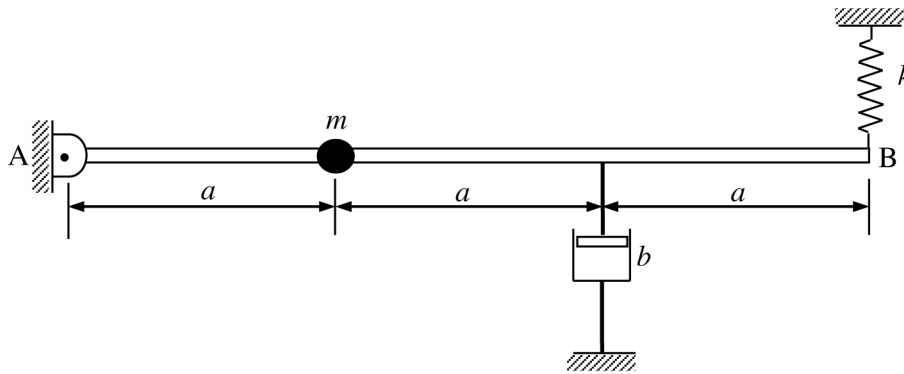

Figure Q9
- 9 a) Figure Q9 shows a uniform rod AB of length $3a$ and mass m hinged at A and supported by a spring of stiffness k at B. A mass m is attached to the rod at a distance a from A and a dashpot having a damping constant b is attached at a distance $2a$ from A.